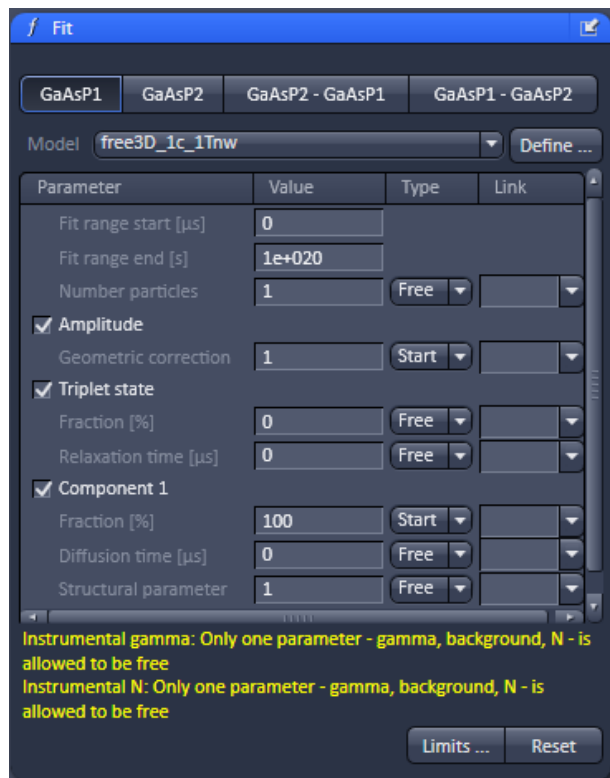

Fig. 272 Fit tool
- Click on the **Fit** tool tab to open the **Fit** tool (Fig. 272). Click the tool tab again to close the panel.